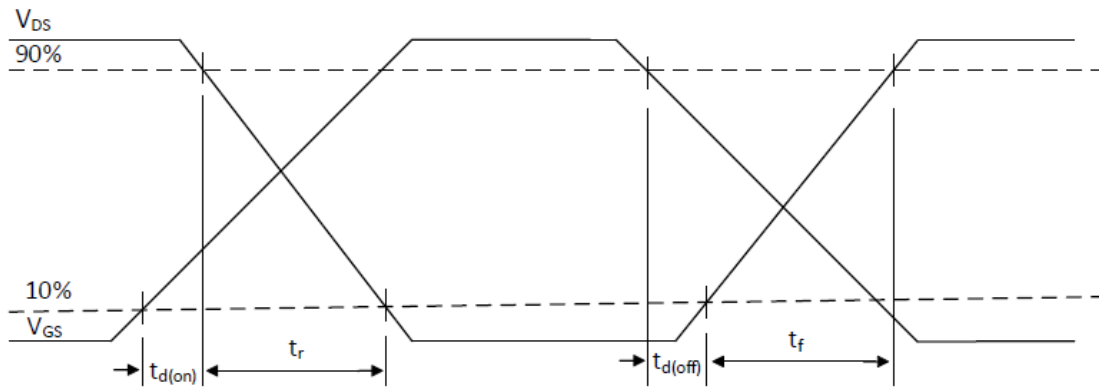

Figure 17: Switching Time Waveforms
(6) See Figure 17 for switching time definition waveforms.
(7) L_p = parasitic inductance.